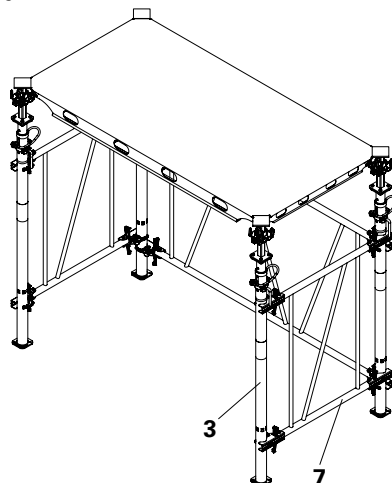

Fig. A4.05
- 9. Install the brace ADB 120 (7) to the fourth prop (3). (Fig. A4.05)